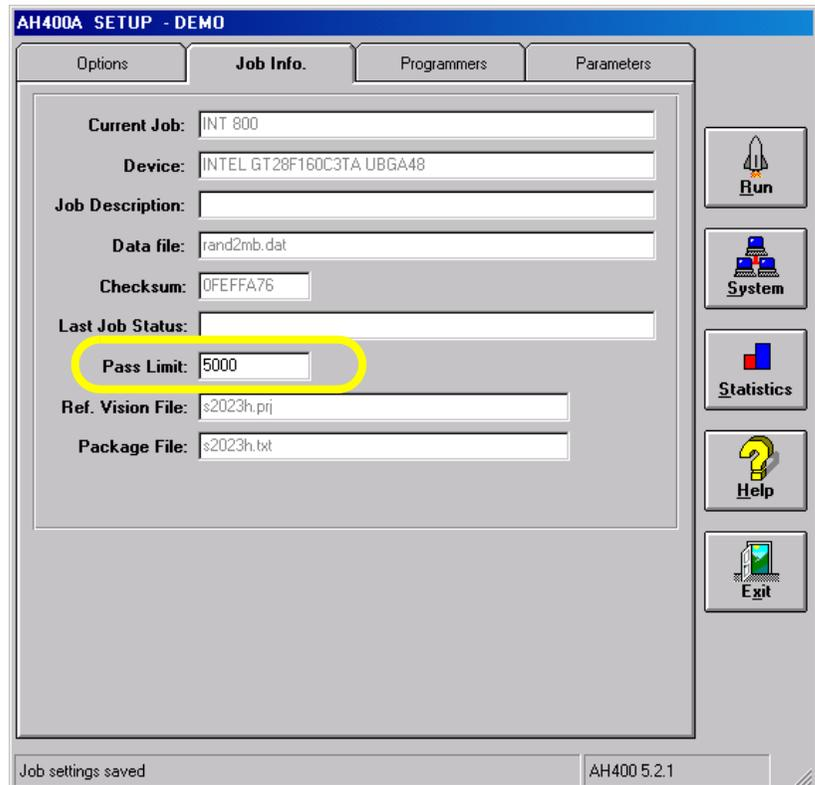

Figure 3-13—New Pass Limit
- 2b) Enter the new Pass Limit value (for example, 5000) and click **OK**. The new Pass Limit is then displayed on the **Job Info** tab. See Figure 3-13.